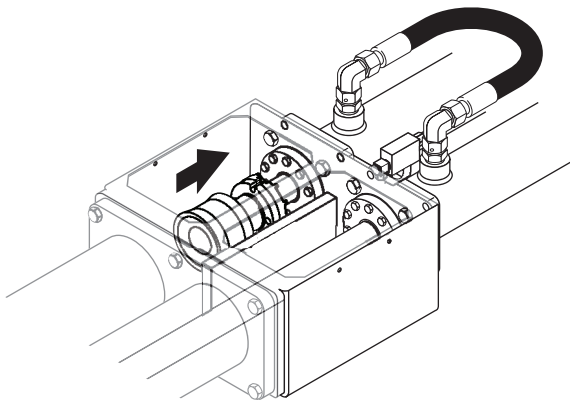

Figure 25
10. Restart the engine, and clear all E-stop requests. Press the concrete pump forward or reverse button and the ram change button simultaneously to slowly retract the cylinder rod until the ram is clear of the material cylinder (Figure 25). Release the concrete pump forward or reverse button or ram change button to stop the differential cylinders. Shut off the engine.